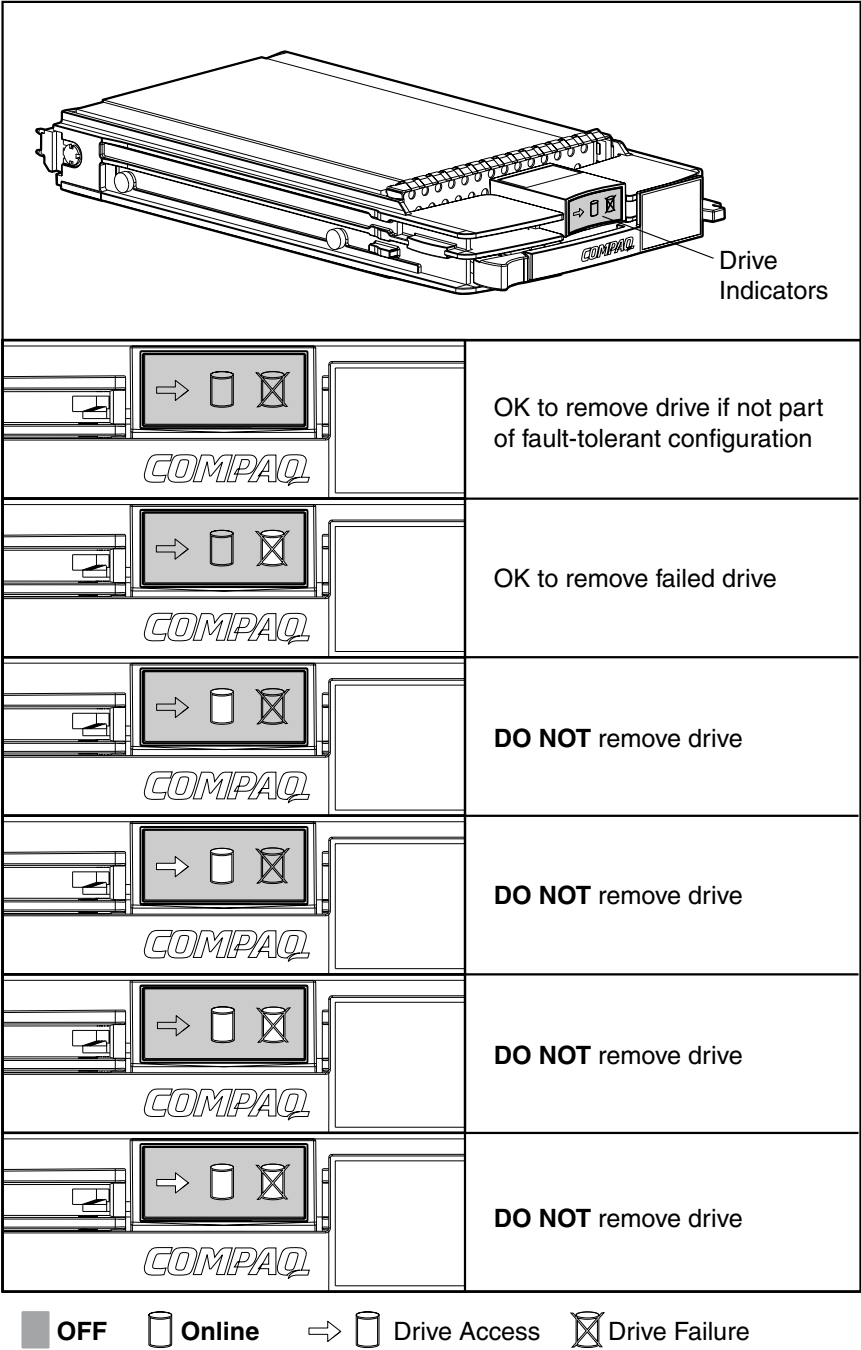

Figure 4-27. Hot-pluggable drive replacement conditions
There are some instances in which you may replace a drive in RAID 1, 4, or 5 configurations. Figure 4-27 illustrates the conditions when you may or may not remove a drive in a fault-tolerant system.
- **Never remove a working drive.** The amber Drive Failure LED on the drive carrier indicates drives that have been failed by the controller. Permanent data loss will occur if a working drive is removed while replacing a failed drive. See Figure 4-27.
- **Never remove a drive while another drive is being rebuilt.** A drive's Online LED flashes green while it is being rebuilt. A replaced drive is rebuilt from data stored on the other drives. See Figure 4-27.
- **If the system has an online spare drive, wait for it to complete rebuilding before replacing the failed drive.** When a drive fails, the online spare becomes active and begins rebuilding as a replacement drive. After the online spare has completed Automatic Data Recovery (The Online LED will be continuously lit), replace the failed drive with a new replacement drive. **Do not** replace the failed drive with the online spare. See Figure 4-27.
See Figure 4-27.
The drive tray LEDs light one at a time and then turn off together to indicate that the system has recognized the new drive. In fault-tolerant configurations, allow the replacement drive to be reconstructed automatically with data from the other drives. While reconstruction is in progress, the Online LED flashes (see Figure 4-27).